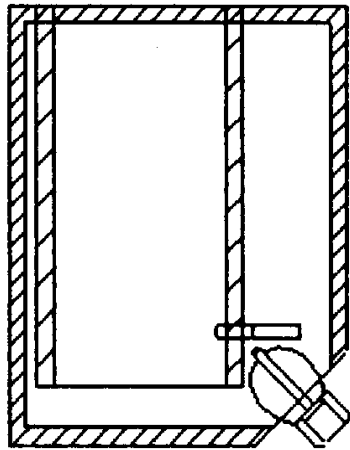

Figure 10-3
Jello Bag, figure 10-3
5. Place Chill Can into inner pocket of hydrated Jello Bag, as in figure 10-3, then wrap Koozie around Jello Bag and Chill Can